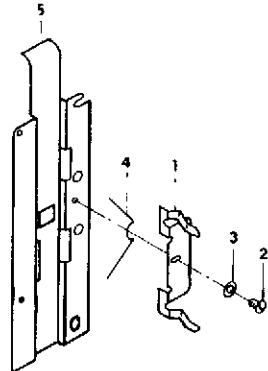

Figure 3-23. APERTURE PLATE
10. Aperture Plate (Fig.3-23)
- a. Lubricate interfaces between guide (1), spacer (3) and plate (5) with Molykote Z.